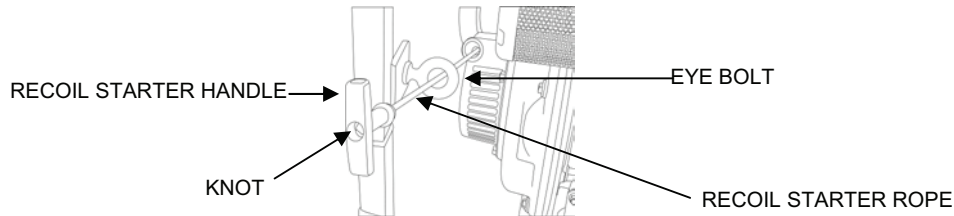

Figure 2. Recoil Starter Cord Removal / Installation from / into Rope Guide.
- d. Pull the recoil starter cord out a little, secure the rope, slip the handle down the rope and untie or cut off the knot at the end of the rope (see Figure 2).
- f. Pull the recoil starter rope out past the skid frame, secure the rope, slip the handle down the rope and untie or cut off the knot at the end of the rope (see Figure 2).